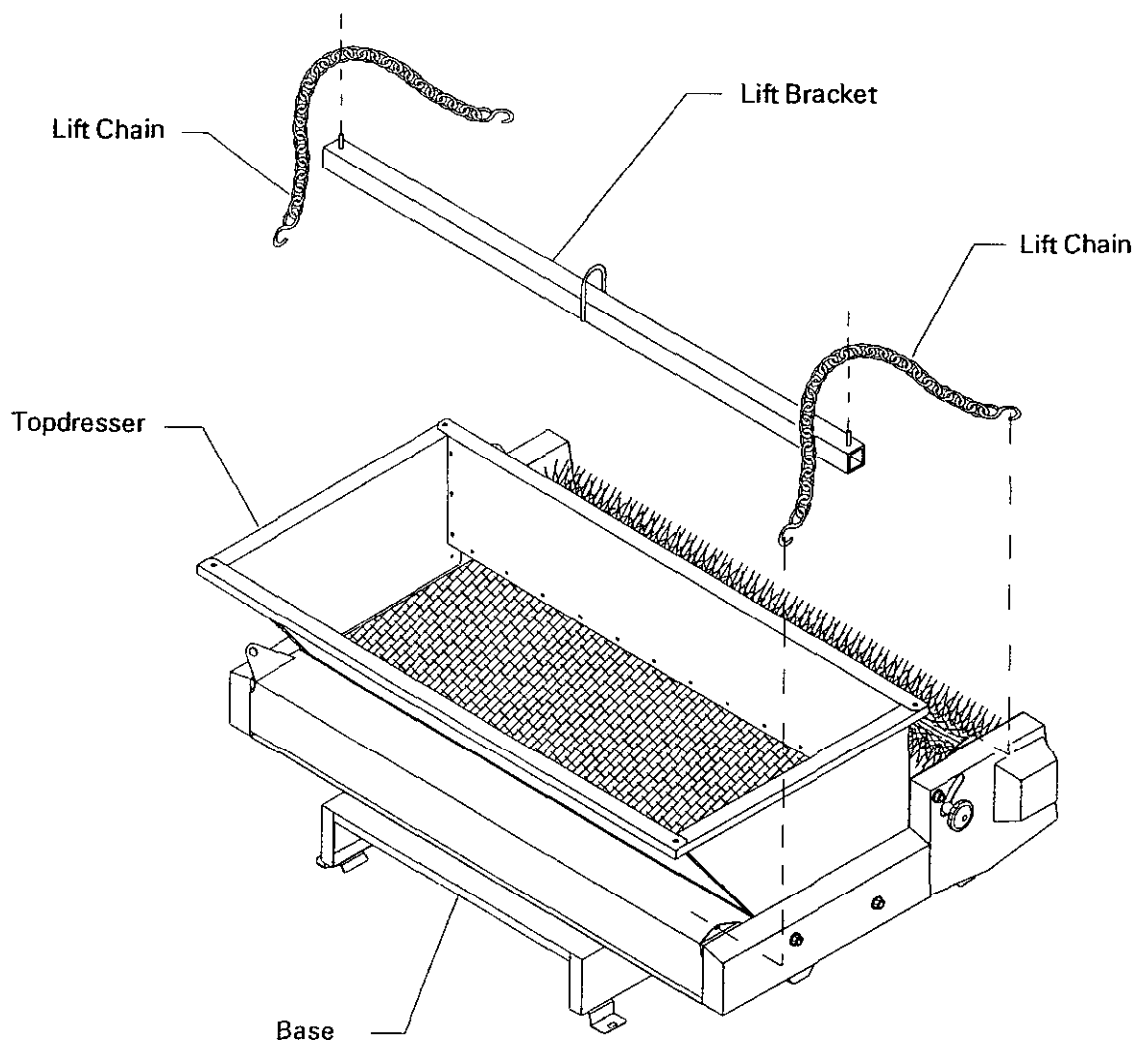

Figure 5
### INSTALL OPTIONAL LIFT ASSEMBLY (Fig. 5)
2. Attach the chains as shown in Fig. 5.